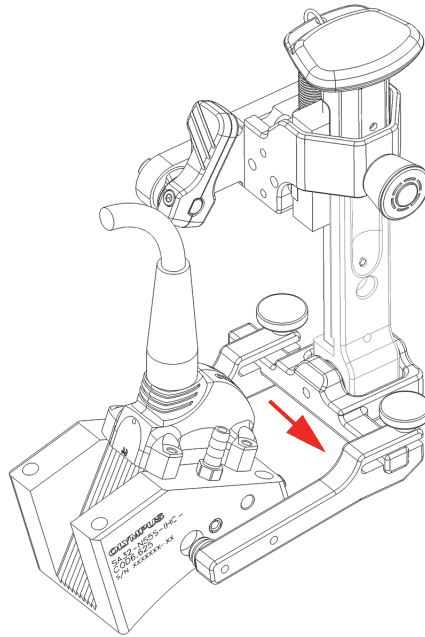

Figure 2-18 Sliding the yoke arm
1. Loosen the yoke arm thumb screw, and then slide one of the yoke arms outward to the tip of the yoke pivoting beam (Figure 2-18 on page 49).